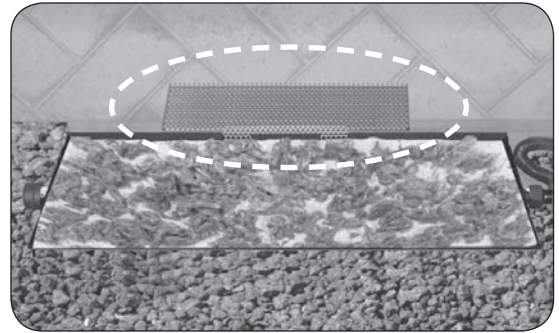

Fig. 14-1 Attach screen (if applicable)
1. Attach the ember screen to the burner by slipping it onto the back edge (center left to right) with the perforated section facing towards the back fireplace wall (Fig. 14-1).